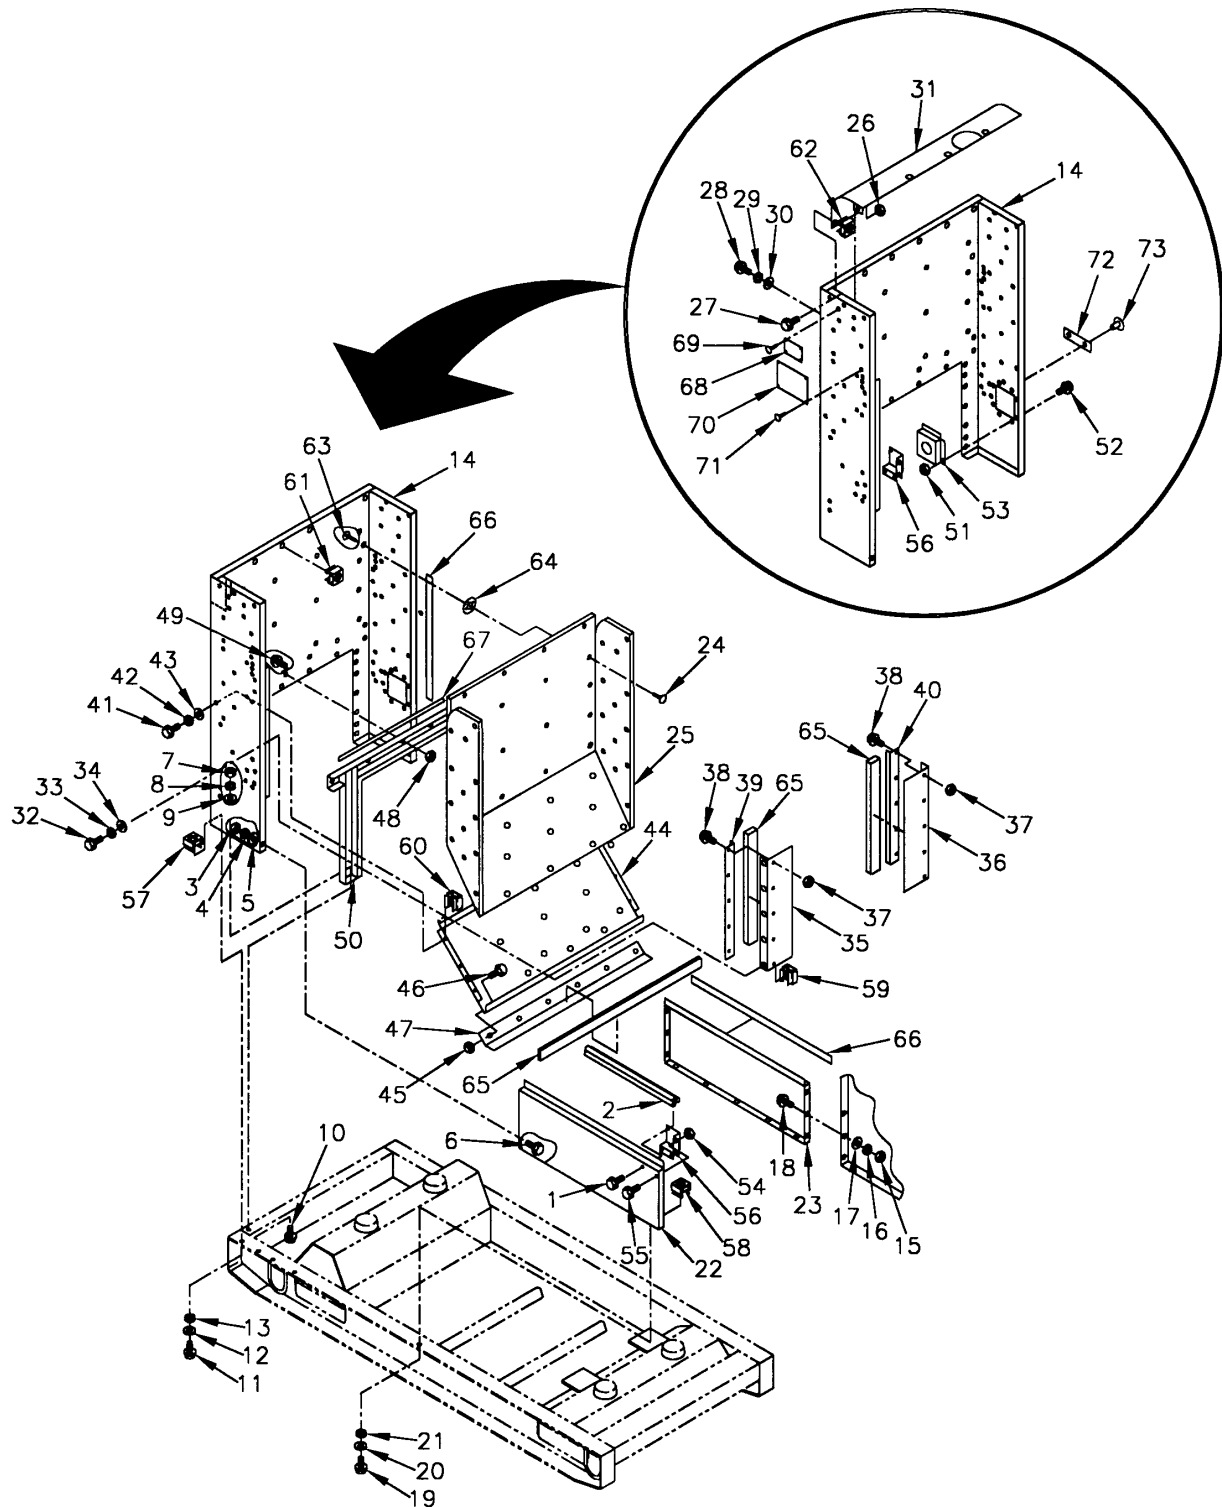

FIGURE 4-8. FRONT HOUSING SECTION (SHEET 1 OF 2)
- (1) Shut down generator set, paragraph 2.11.2.
- (2) Remove BATTERY ACCESS door. Refer to paragraph 4.7.1. Remove batteries, paragraph 4.6.3, and NATO SLAVE RECEPTACLE, paragraph 4.6.4.
- (3) Remove engine compartment access doors. Refer to paragraph 4.7.1.
- (4) Remove top housing section, paragraph 4.7.3.
- (5) Remove bolts (1, Figure 4-8) and ground rod sections (2) from brackets (56).
- (6) Remove nuts (3), lockwashers (4), washers (5), and bolts (6) from door sills (22 and 23) and front housing (14).
- (7) Remove nuts (7), lockwashers (8), washers (9), and bolts (10) from front housing (14) and skid base.
- (8) Remove bolts (11), lockwashers (12), washers (13) and front housing (14) from skid base.
- (9) Remove nuts (15), lockwashers (16), washers (17), and bolts (18), from doors sills (22 and 23) and generator set.
- (10) Remove bolts (19), lockwashers (20), washers (21), and door sills (22 and 23) from skid base.
- (11) Remove clip halves (24) and insulation (25) from front housing (14).
- (12) Remove locknuts (26) and bolts (27) from air deflector (31) and front housing (14).
- (13) Remove bolts (28), lockwashers (29), washers (30), and air deflector (31) from front housing (14).
- (14) Remove bolts (32), lockwashers (33), washers (34), and radiator panels (35 and 36) from front housing (14).
- (15) Remove locknuts (37), bolts (38), and supports (39 and 40) from radiator panels (35 and 36).